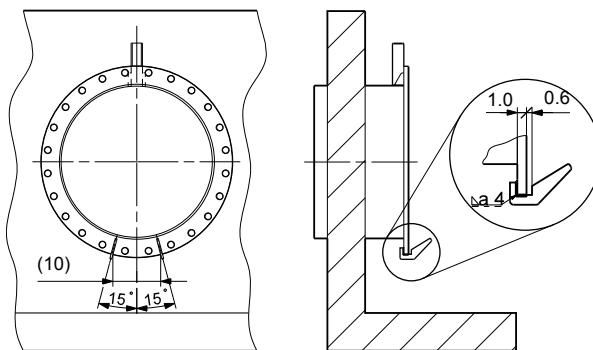

Fig. 4 Position of guide claws
3. SRG.xx.32.xx: Weld the guide claws to the connection flange. See fig. 4.